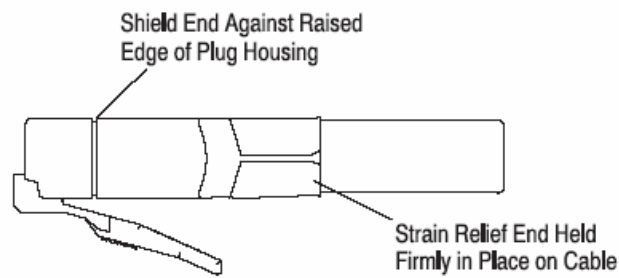

Figure 13
3. The shield end must be against the raised edge of the housing. The strain relief end must be held firmly in place on the cable. See Figure 13 and 17.